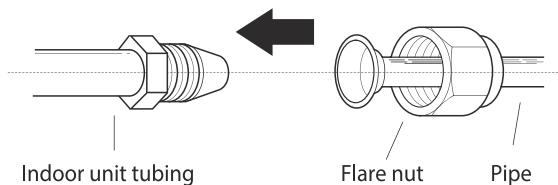

Fig. 5.7
- 1 Align the center of the two pipes that you will connect. See Fig. 5.7 .